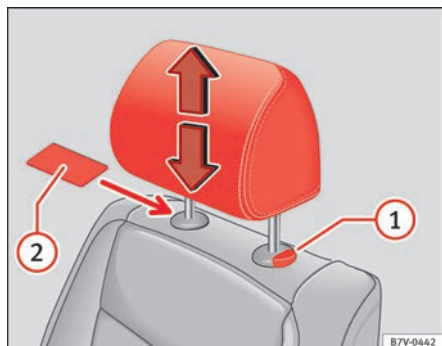

Fig. 86 Removing the front head restraint.
- Unlock the head restraint using a flat object such as a plastic card, if required, sliding it between the upholstery of the head restraint and the head restraint rod-guide cover ⇒ fig. 86 (2).
- Pull the head restraint out of the fitting without releasing the button (1).